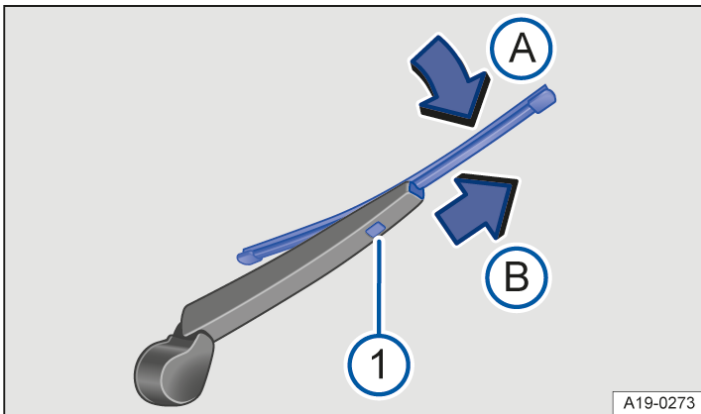

Fig. 2 Changing the wiper blade for the rear window.
- Press and hold the release button → Fig. 2 ¹.
- Tilt the wiper blade in the direction of the wiper arm → Fig. 2 (arrow ^A) and pull it off in the direction of the arrow ^B at the same time. You may need to use some force to do this.
- Insert a new wiper blade with the same length and design onto the wiper arm against the direction of the arrow. Push it on until it engages → Fig. 2 (arrow ^B). The wiper blade must be in the folded back position → Fig. 2 (arrow ^A).